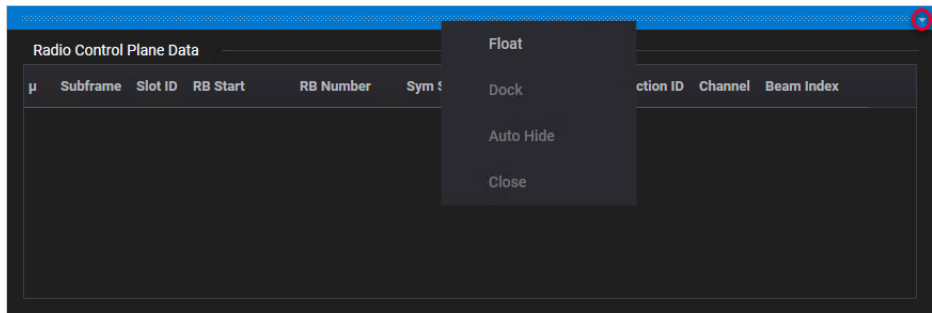

Figure 61 Options menu for dockable planes
- Alternatively, right-click the white / blue band (on top) or click the “Options” menu (as highlighted in Figure 61) of the plane you wish to move. Click “Float” to displace the selected plane.